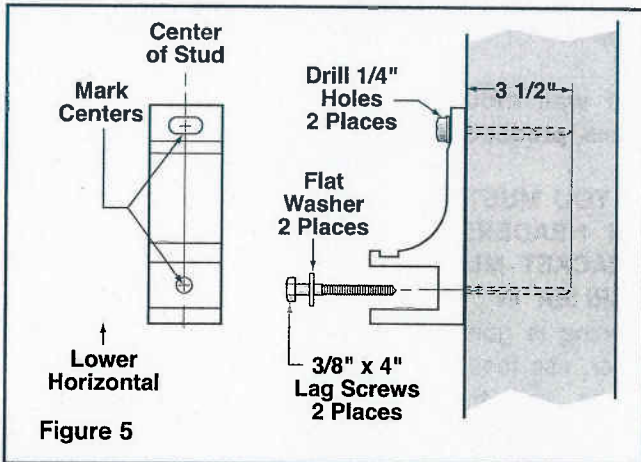

Figure 5
5. Position the bracket on the wall (or on the shim), centered over the vertical line, with the bottom of the bracket even with the lower horizontal chalk line. Using a level, plumb the bracket vertically, then mark the top and bottom holes-- see figure 5.
7. Using a 9/16" socket, install the bracket with the two 3/8" x 4" long lag screws. Use the flat washer provided under the head of the screw. While tightening the lag screws, keep the bracket plumb (use level if needed). Do not overtighten the lag screws; doing so may split the wood framing or weaken the screw -- see figure 5.